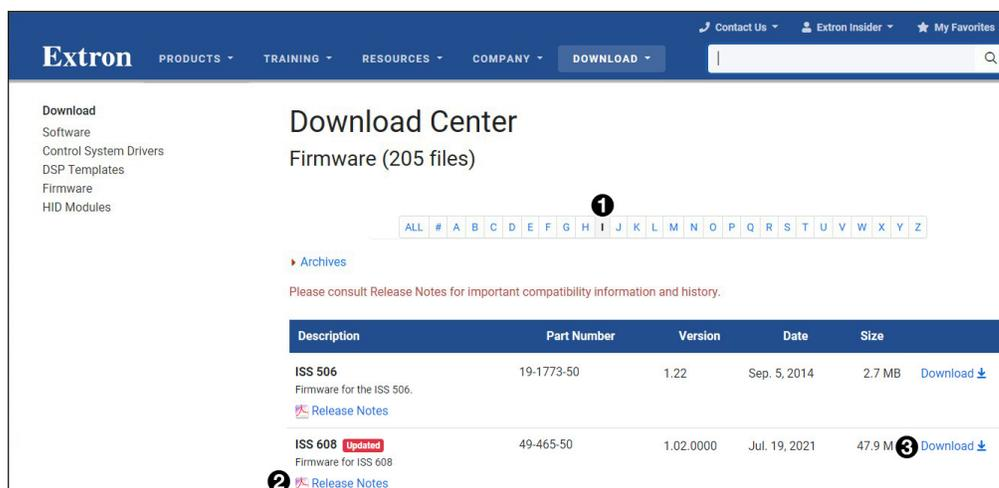

Figure 28. Firmware Page with Alphabetic Navigation Bar
- a. Click the letter **I** from the alphabetic navigation bar (see figure 28, ❶).
- c. (Optional) Click **Release Notes** (❷) for more information about the firmware update.
- d. Click **Download** (❸). The product download screen opens.